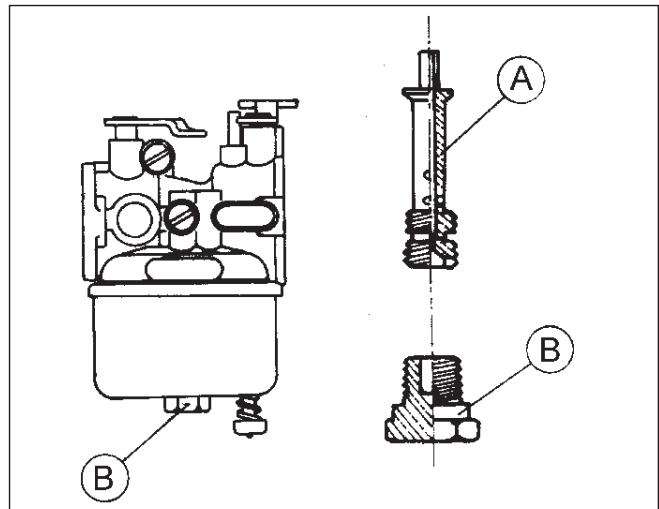
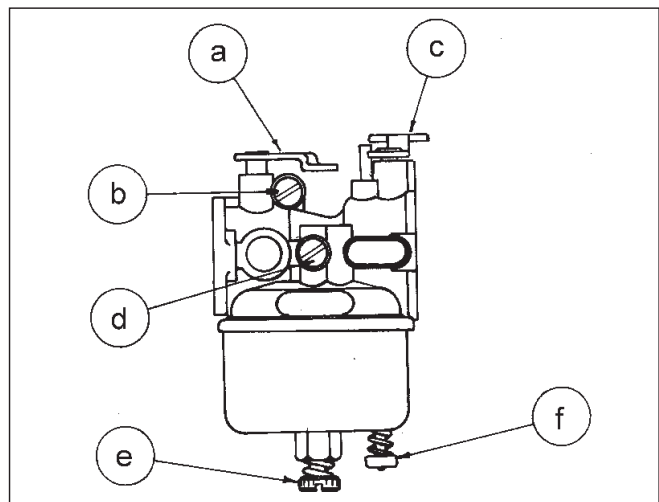

Fig. 13
Fig. 14
The carburetors may be found with fixed (Fig 13) or adjustable (Fig 14) jet.
a) ADJUSTMENT (ADJUSTABLE JET) (FIG 14)
- Disconnect fuel pipe. Empty fuel bowl by means of the push button (f - Fig 14).